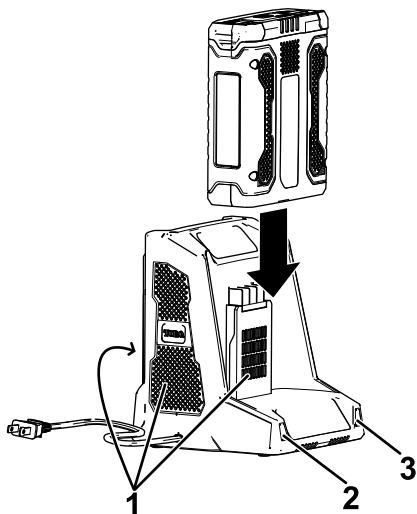

Figure 9
5. Slide the battery pack into the charger until it is fully seated (Figure 9).